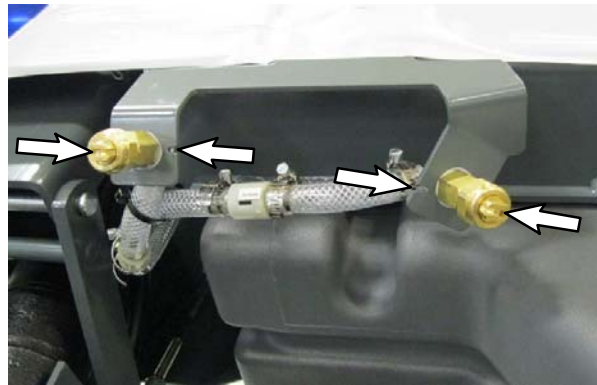

FIG. 10 - Right Spray Nozzle Assembly
64. Remove the plugs from the front bumper. Discard both plugs. (Fig. 10)
69. Align the notches in the spray nozzles (46) with the notches in the right dual nozzle bracket (43) and tighten the cap fittings (47). (Fig. 10)